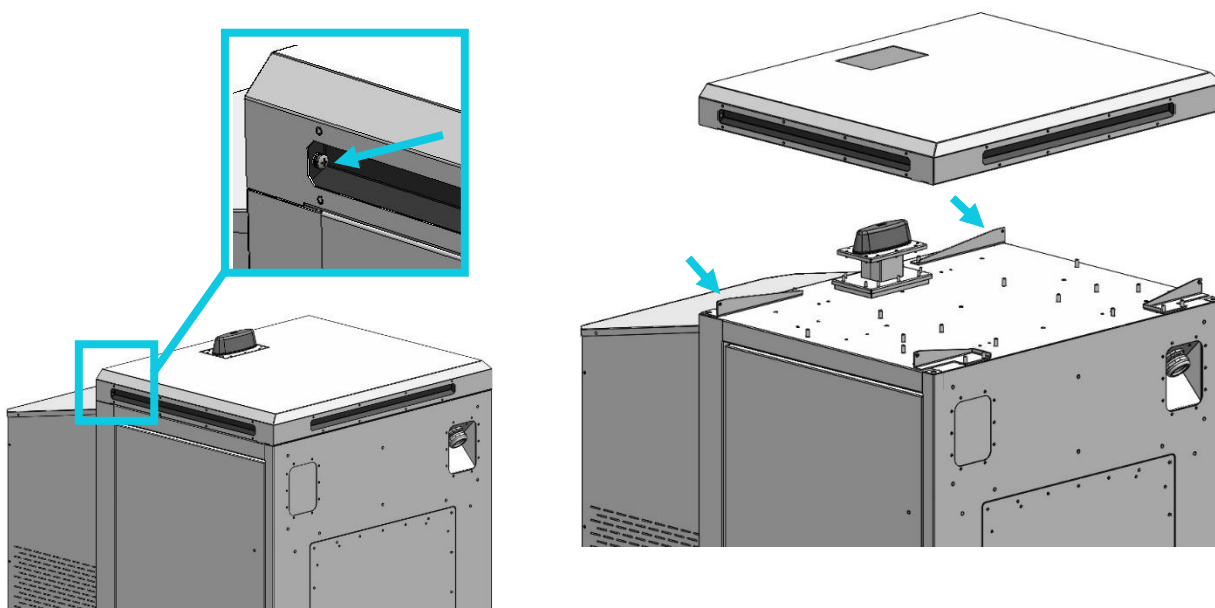

Figure 16 –Low profile hood: Four screws (2 upper-left and 2 upper-right) secure hood to charger
- a. **For Low Profile Hood model (Figure 16):** Use a Phillips screwdriver to remove the 4 screws and their washers securing hood to the top of the charger inside hood recesses, 2 on upper-left side and 2 on upper-right side, and then set screws, washers, and hood aside. Then, to make room for 2 rear eyebolts, using a hex bolt wrench, remove both rear-corner hex bolts on the top of the charger; then set the 2 hex bolts aside. All other hardware, including the brackets, can remain in place.